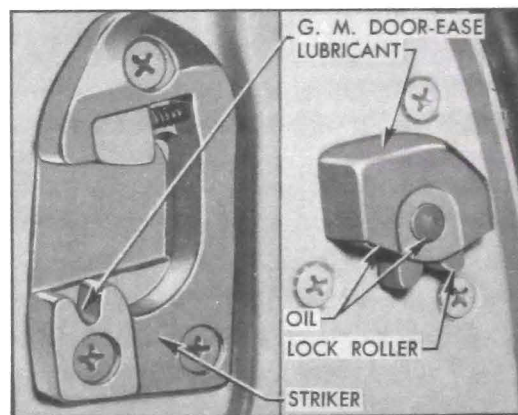

Figure 1-7—Door Lock and Striker—Series 40-60
2. *Door Locks and Strikers—Series 40-60.* Remove dirt and old lubricant from door locks and strikers. Apply one or two drops of SAE 10 engine oil to lock roller pins, and apply a light coat of G.M. Door-Ease Lubricant to top surface of lock roller housings and to teeth in strikers. Wipe off excessive lubricant. See figure 1-7.